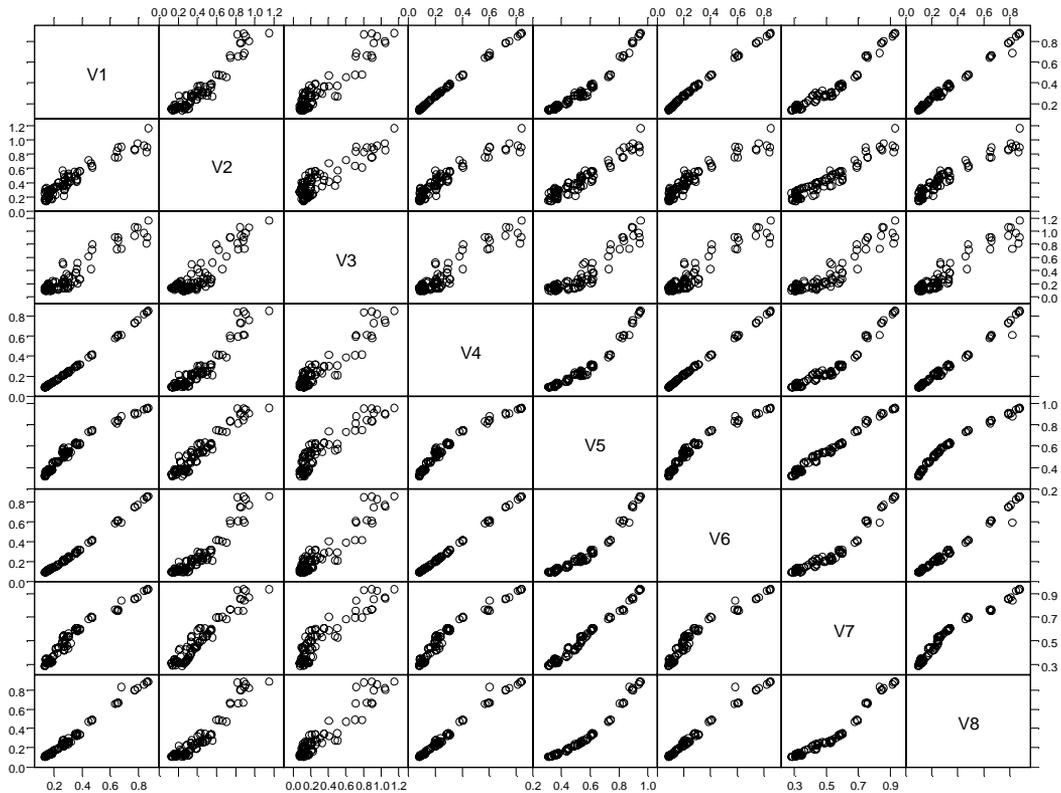

Figure 3.36: Scatterplot matrix of eight different pollution sensors.
- Click the **Scatter Matrix** button  on the **Plots 2D** palette. The resulting graph is shown in Figure 3.36.